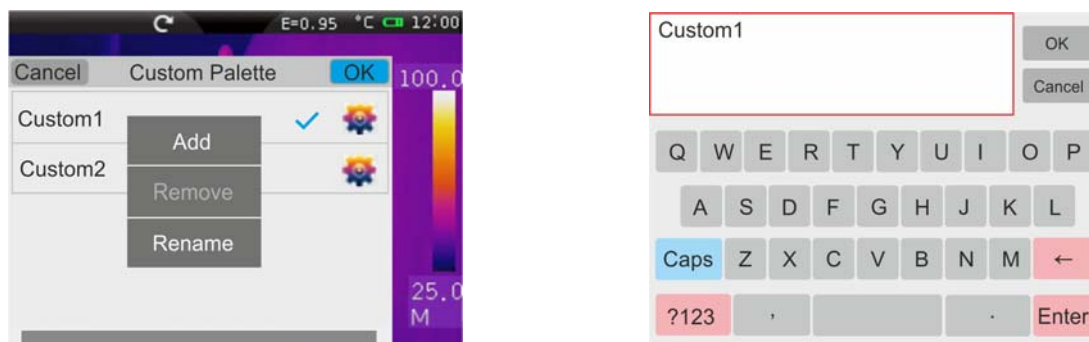

Fig. 49: Customizing the user palette name
5. Touch the item “**Rename**” to change the name of the palette (max 8 figures). An internal virtual keyboard is shown on the display (see Fig. 49). Confirm the operation with “OK”.